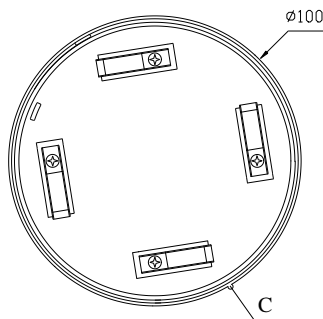
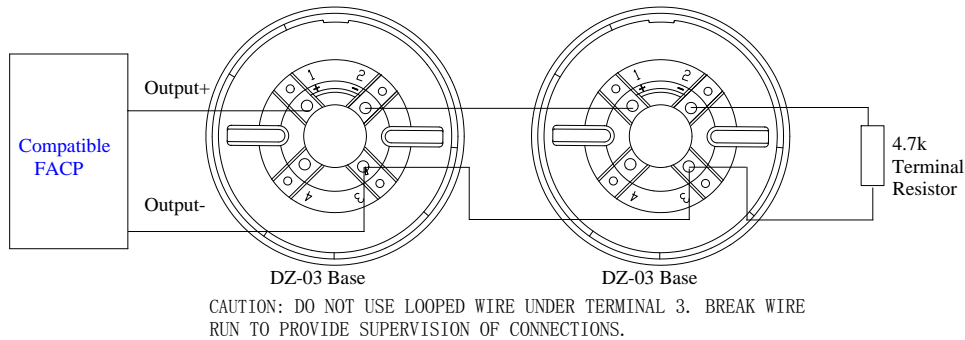

Fig. 3 Bottom of the detector
Fig. 5 Wiring
2. Bottom and base of the detector is shown in Fig. 3 and Fig. 4.
The base of the detector is DZ-03 Base produced by GST. The bottom of the detector and the orientation base are shown in Fig. 3 and 4. There are four terminals with numbers on the base, "1" connects with the anode of the output end of compatible FACP, "2" connects with terminal No. "1" of the next base as output, "3" connects with terminal No. "3" of the next base and the cathode of the output end of compatible FACP, "4" doesn't connect to any wires but is used to fix the detector accessorially. A 4.7k/1w terminal resistor can be connected between terminal "2" and "3" of the last base in a loop. System connection is shown in Fig. 5.